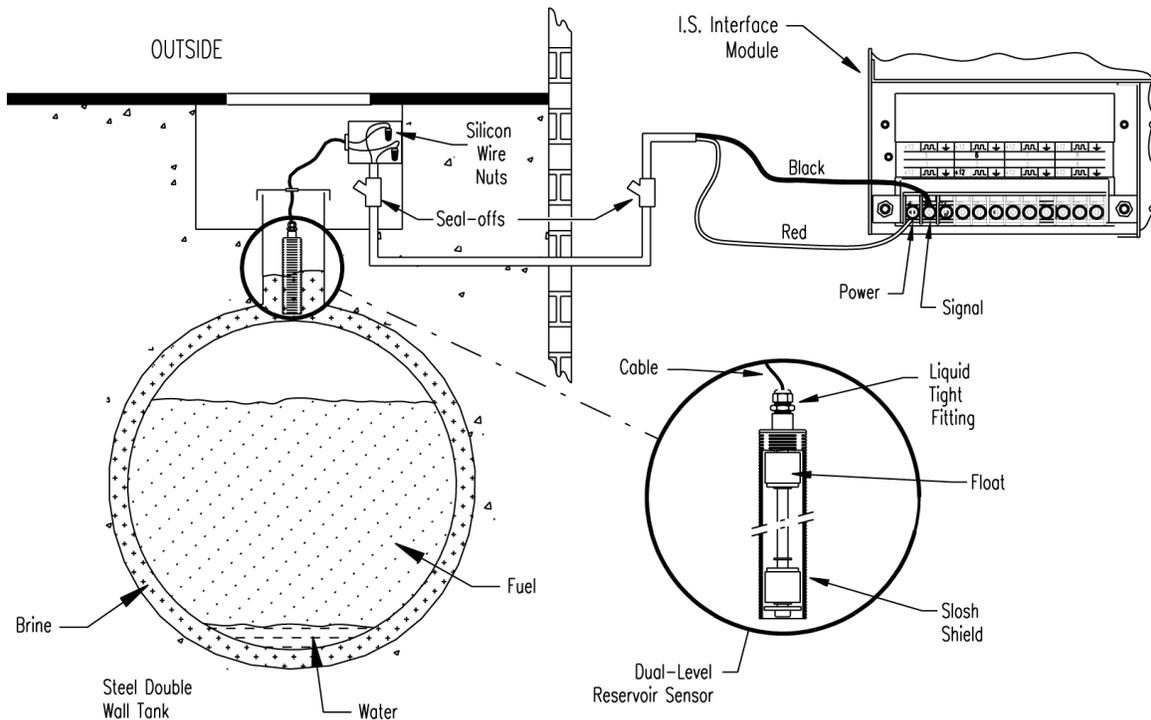

Figure 13-12 Dual-Level Sump Sensor Installation
- Review Figure 13-12 on page 56.